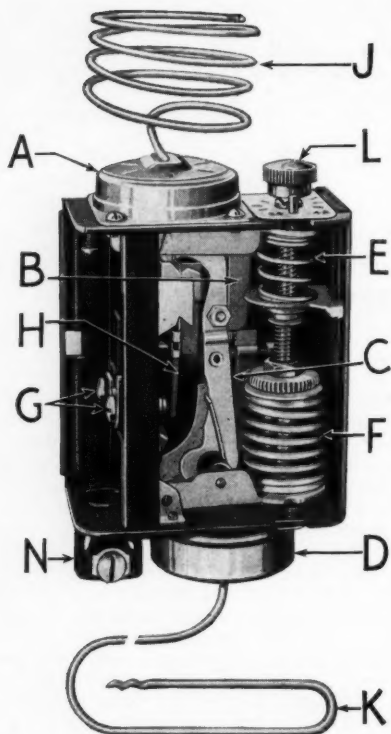

Fig. 1—The Ranco 91G2 Control with cover removed showing the relative position of each part. The letters correspond with those in Fig. 2.
The adjustment knob (L) Fig. 1 on the outside of the control provides accessible means for the customer to make limited adjustment of the fixture temperature without affecting the defrosting of the coil.